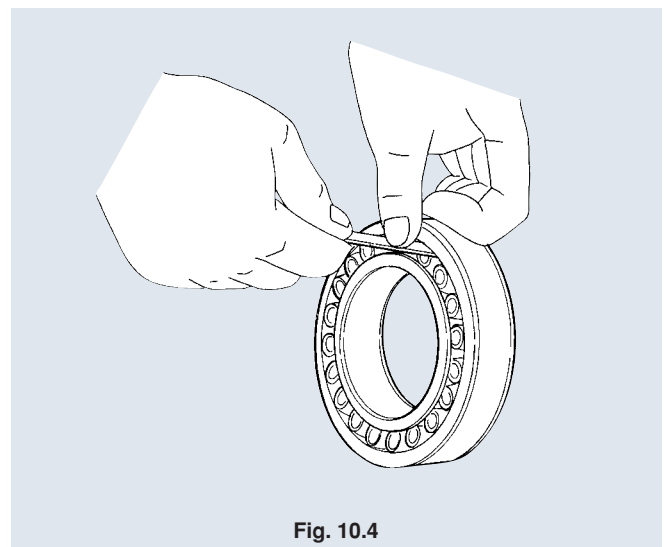

Fig. 10.4
- (1) Unpack the bearing just before the installation work.
- (2) If the bearing is to be grease-lubricated, the rust-proof coating on it may remain unremoved. If it is to be oil-lubricated, remove the coating with benzene or kerosene.
- (3) For a bearing with an adapter, check its radial clearance before the installation work. To do so, place it on a flat work bench, and fit a thickness gage between the uppermost roller and the raceway surface on the outer ring to measure the clearance (Fig. 10.4). Do not force the thickness gage in or turn the bearing. Otherwise, the resultant clearance measurement will be greater than the actual clearance.